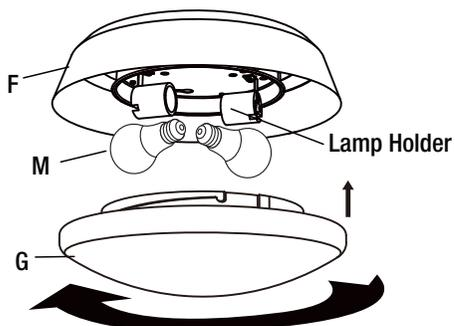

Figure 15
- Install light bulbs (M) (max. 9W each, LED, medium screw base) to the lampholders.
- Install the lamp shade (G) onto the light kit plate (F) by gently twisting clockwise and locking into position. (Figure 15)